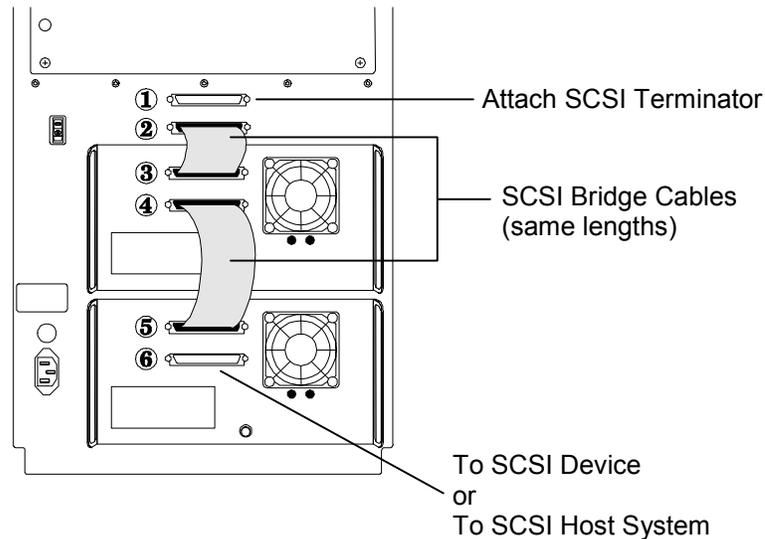

Figure 5-34 SCSI Basic Connection – Model 6220 Shown
Figure 5-34 shows a basic connection scheme, where the changer and both drives are all connected to the same SCSI bus.
1. If no other SCSI device is attached to connector number 1 of Figure 5-34 then install a SCSI terminator at connector 1.